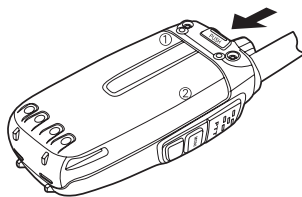

Figure 2
2. To remove the battery, please, make sure the radio is powered off, and making sure the battery and the radio are separated, press the battery fastening button, and slide the battery towards the lower transceiver's part. (Figure 2)